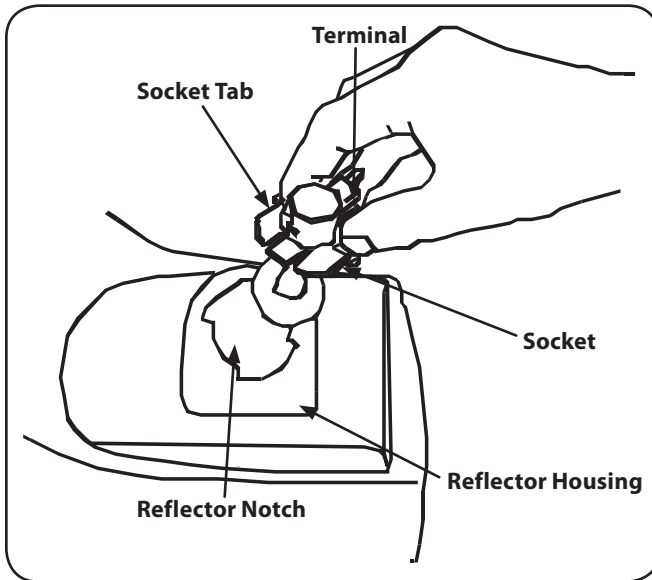

Figure 7-2
3. Rotate the socket assembly approximately $\frac{1}{4}$ turn to align the socket tab with the reflector housing notch; then withdraw the bulb and socket assembly from the reflector housing. See Fig. 7-2.
5. Align a locking post of the bulb base with the notch in the socket, then push the bulb inward and turn clockwise to lock. See Fig. 7-2.